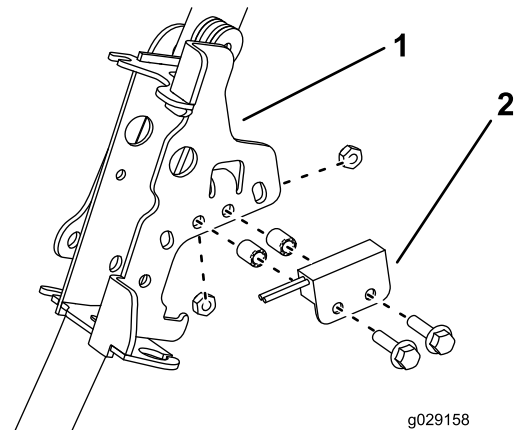

Figure 6
12. Remove and discard the old traction bracket, but retain the proximity switch and mounting hardware (Figure 6).